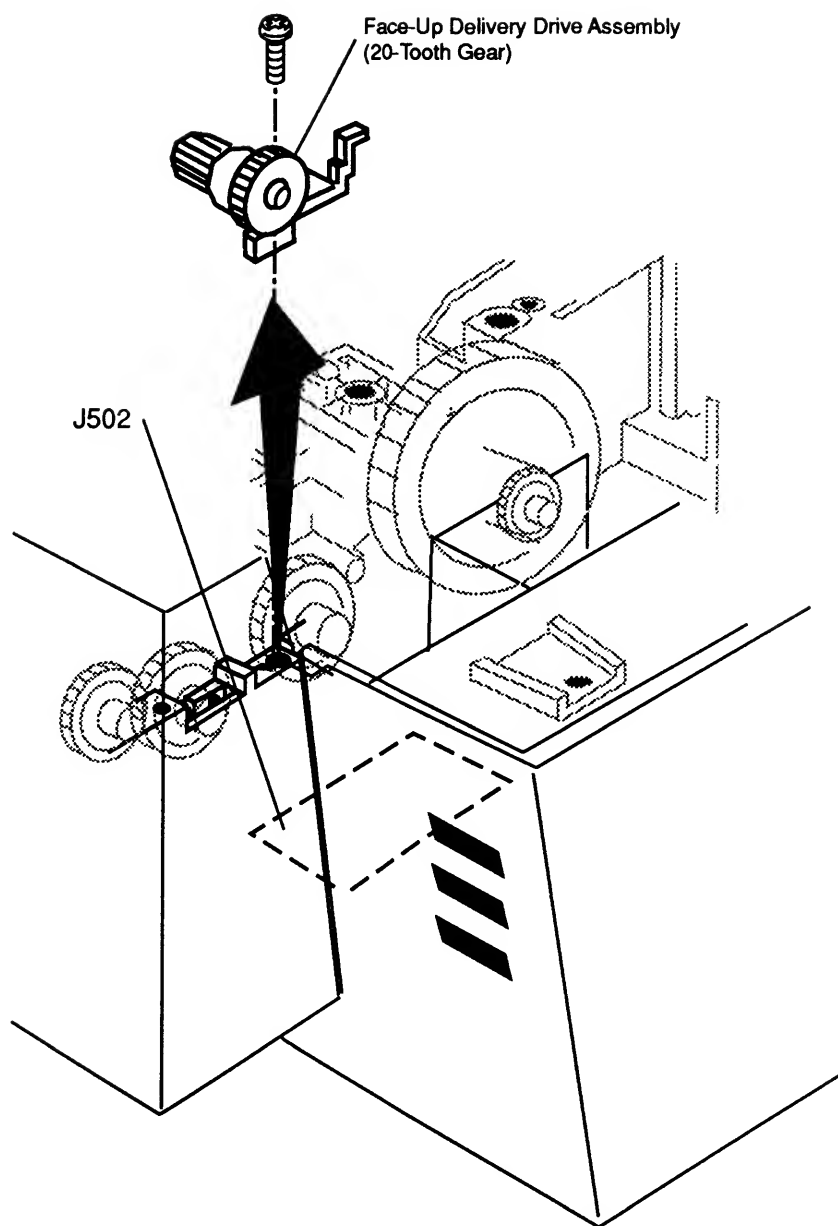

Figure 2-57 Face-Up Delivery Drive Assembly
3. Remove the silver-colored screw holding the face-up delivery drive assembly to the front access door **(Figure 2-57)**.
4. Lift the face-up delivery drive assembly and the white, 20-tooth gear out of the printer **(Figure 2-57)**.